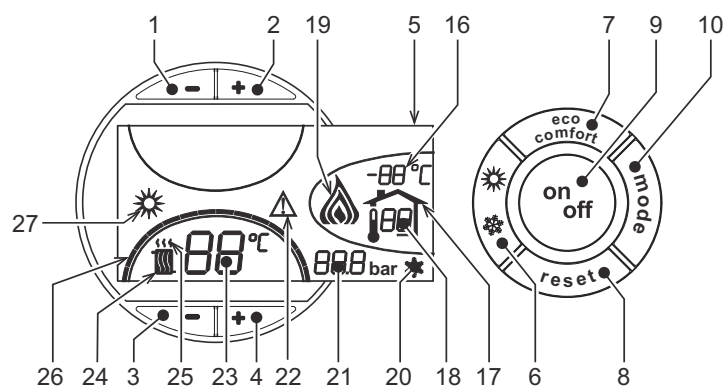
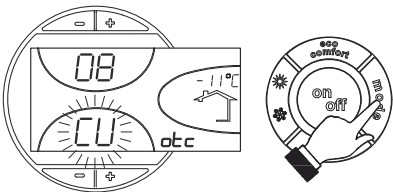
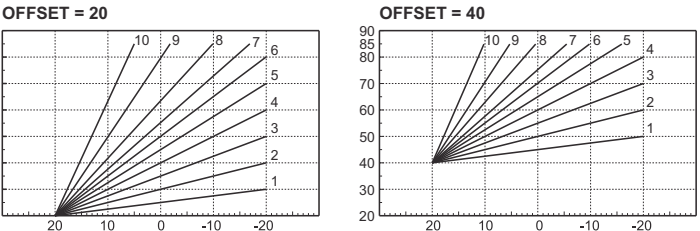

fig. 1 - Control panel
fig. 9 - Compensation curve
fig. 12 - Example of compensation parallel curve offset
Press the **on/off** button (detail 9 - fig. 1) for 1 second.
To relight the boiler, press the **on/off** button (detail 9 - fig. 1) again for 1 second.
- Press the ON/OFF button (9 - fig. 1)
Press the **summer/winter** button (detail 6 - fig. 1) for 1 second.
The display activates the Summer symbol (detail 27 - fig. 1): the boiler will only deliver domestic hot water. The antifreeze system remains activated.
To deactivate the Summer mode, press the **summer/winter** button (part. 6 - fig. 1) again for 1 second.
Use the **heating** buttons (details 3 and 4 - fig. 1) to adjust the temperature from a min. of 30°C to a max. of 80°C.
Use the DHW buttons +/- (details 1 and 2 - fig. 1) to adjust the temperature from a min. of 10°C to a max. of 65°C.
When the optional external probe is installed the control panel display (detail 5 - fig. 1) shows the actual outside temperature read by the probe. The boiler control system operates with "Sliding Temperature". In this mode, the temperature of the heating system is adjusted according the outside weather conditions, in order to ensure high comfort and energy saving throughout the year. In particular, as the outside temperature increases, the system delivery temperature is decreased according to a specific "compensation curve".
With Sliding Temperature adjustment, the temperature set with the heating buttons +/- (details 3 and 4 - fig. 1) becomes the maximum system delivery temperature. It is advisable to set a maximum value to allow system adjustment throughout its useful operating range.
Press the **mode** button (detail 10 - fig. 1) once to display the actual compensation curve (fig. 9), which can be modified with the **DHW** buttons (details 1 and 2 - fig. 1).
Press the **heating** buttons (details 3 and 4 - fig. 1) to access parallel curve offset (fig. 12), modifiable with the **DHW** buttons (details 1 and 2 - fig. 1).
Press the **mode** button (detail 10 - fig. 1) again to exit parallel curve adjustment mode.
If the Remote Timer Control (optional) is connected to the boiler, the above adjustments are managed according to that given in table 1. Also, the control panel display (detail 5 - fig. 1) shows the actual room temperature detected by the Remote Timer Control.
| Eco/Comfort selection       | On disabling DHW from the Remote Timer Control menu, the boiler selects the Economy mode. In this condition, the button 7 - fig. 1 on the boiler panel is disabled.On enabling DHW from the Remote Timer Control menu, the boiler selects the Comfort mode. In this condition it is possible select one of the two modes with the button 7 - fig. 1 on the boiler panel. |